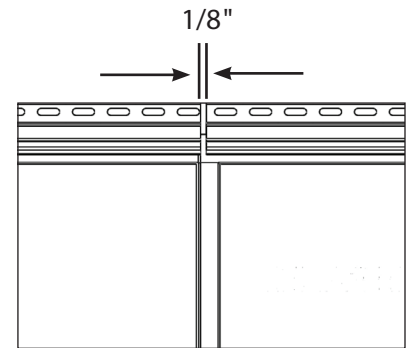

FIGURE 1
- When lapping panels, leave 1/8" gap at nailing hem (**FIG 1**).